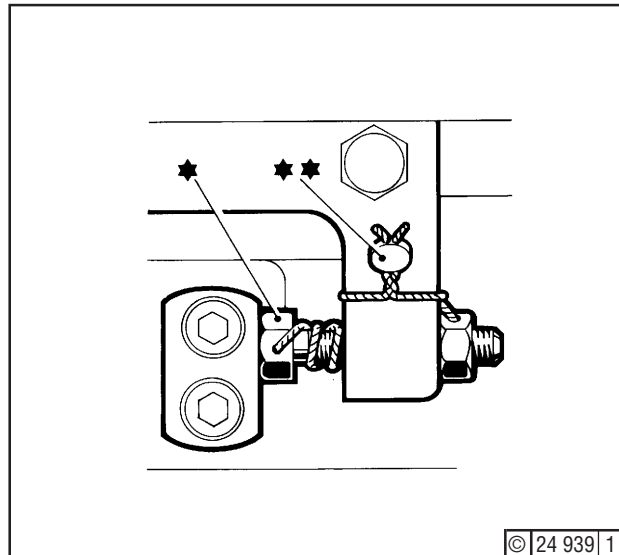

Fig. 16
13. Check that linkage abuts at stop screw (*) - Fig. 16 - when pushed to maximum load (point A13). Upon completion of the setting, lead-seal the engine output (**).